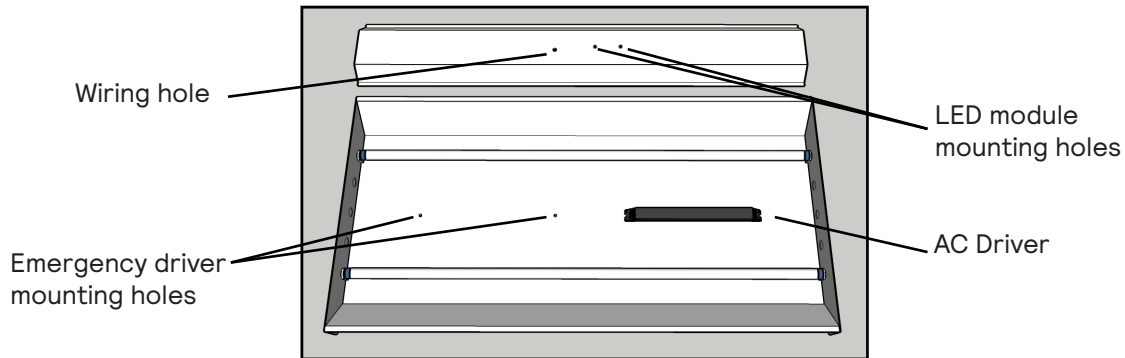

Figure 2. New hole location details
- D. For the installation of the emergency driver and LED module, you will need to drill holes in the positions illustrated in **Figure 2** (two 1/8" holes for driver, two 1/8" holes for module and one 1/4" hole for wiring between driver and module). If the luminaire differs from the one shown here: